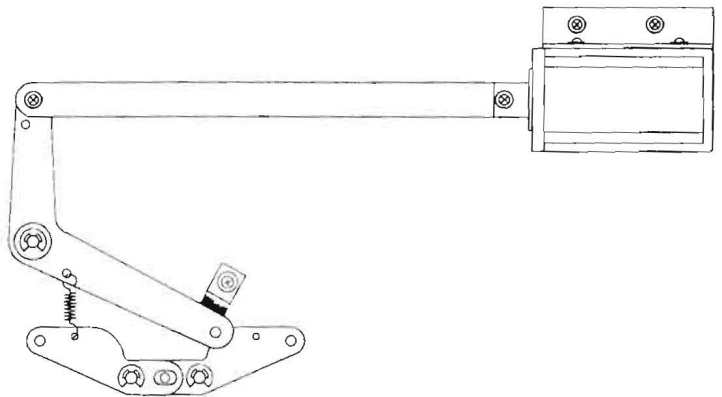

Figure 6-3
4. Adjust the Lifter Stopper position by loosening the screws on the Lifter Stopper so that the appropriate gap is obtained. Refer to Figure 6-3.
7. If the tape touches the head, move the solenoid backward by loosening the screws holding the Lifter Solenoid Bracket. Refer to Figure 6-3.